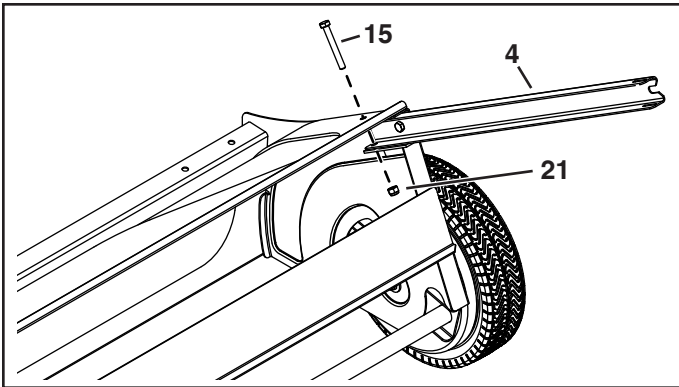

FIGURE 2
- Slide the bag arm channels (4) into the sweeper housing as shown in figure 2. Secure them to the sweeper housing with a 5/16-18 x 2-1/2" hex bolt (15) and 5/16" nylock nut (21). Tighten bolt until snug. **Do not overtighten.**